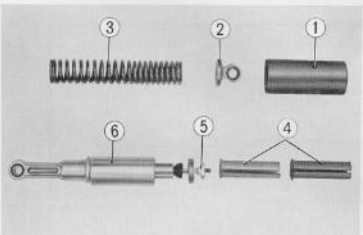

Fig. 4.79 Component parts of rear cushion
3. Remove the rear cushion components parts. (Fig. 4.79)